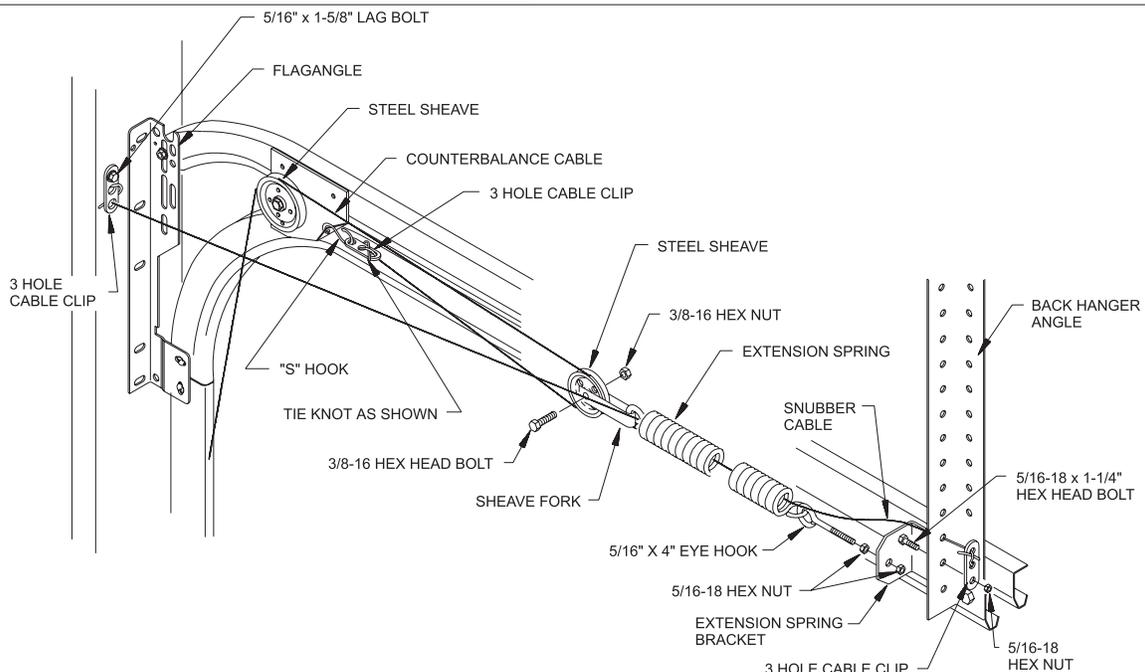

FIG. 9.2
Place a 5/16" hex nut over the end of each eye hook. Locate the 5/16" x 4" eye hooks through the holes in the extension spring brackets at the rear of the horizontal track. Secure the eye hooks with a second 5/16" hex nut. Secure the snubber cables to the hanger angle using (1) 3 hole clip and a 5/16-18 x 1-1/4" hex head bolt and nut on each side. Hook one end of each extension spring over the eye hooks. Feed the snubber cables through the extension springs and secure the loose ends to the jamb using a 3 hole clip and 5/16" x 1-5/8" lag bolt as shown. Place a sheave fork through the loose end of each spring and secure a steel sheave to it using (1) 3/8"-16 hex head bolt and hex nut each. Feed the counterbalance cables over the steel sheaves as shown. Secure the cables to the track by tying a 3 hole clip to the end of the cables and hooking an "S" hook into the 3 hole clip and the sheave plate of the horizontal track, as shown in FIG. 9.2.